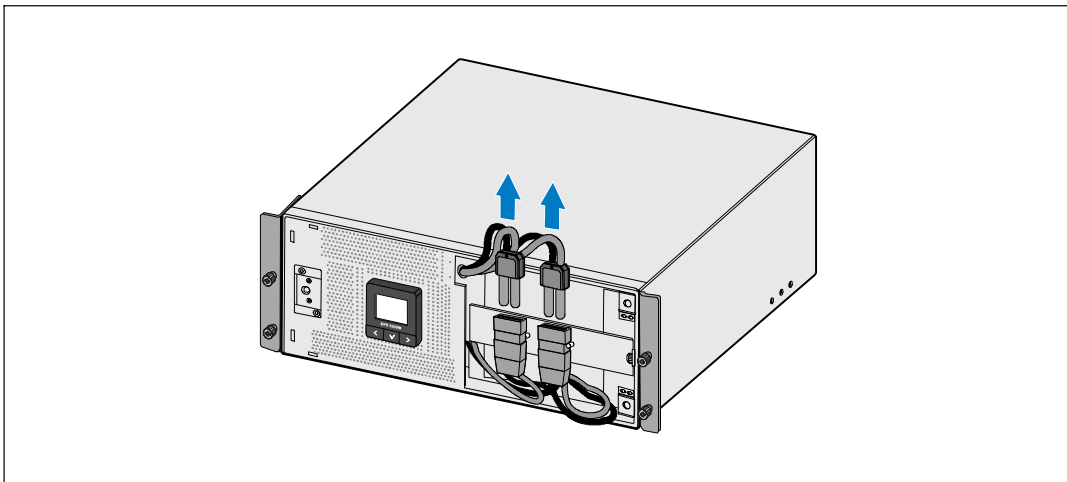

Figure 26. Disconnecting the Internal Battery Connectors
- 4 Disconnect the internal battery connectors (see Figure 26).